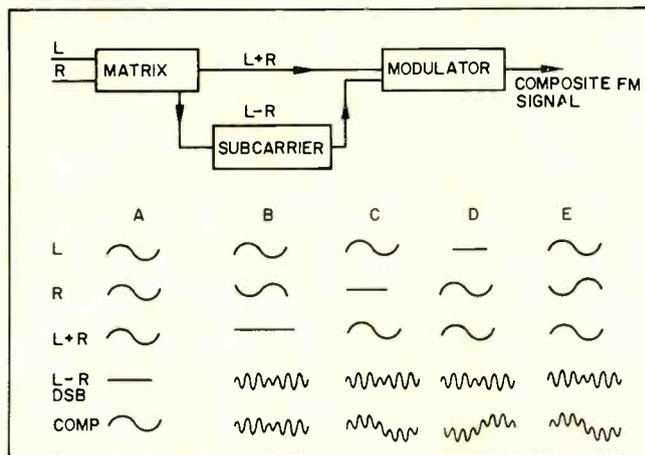
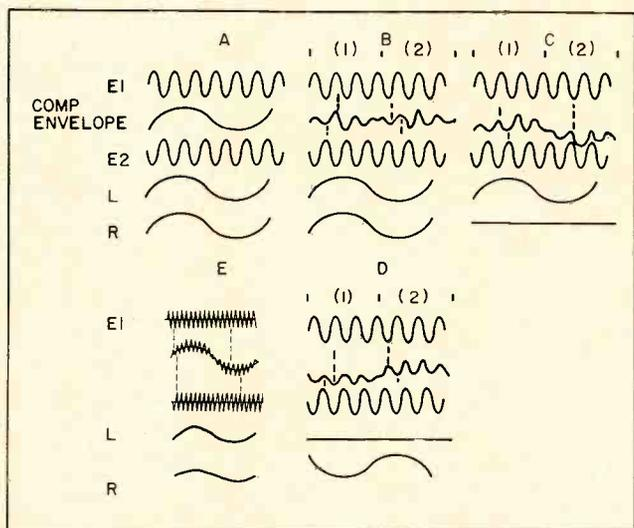

Fig. 2—Make-up of composite FM signal.
Fig. 4—Stereo sampling waveforms.
Example "A" of Fig. 2 demonstrates the make-up of the composite FM signal when the audio applied to the left and right channel inputs are of the same amplitude and phase. When the left and right signals are matrixed, there is an $L + R$ output. In the matrix, however, the L and R components cancel in the $L - R$ section and there is no $L - R$ output. Thus, for this operating extreme, only an $L + R$ signal is sent between the transmitter and each receiver. No subcarrier modulation exists because of the absence of $L - R$ signal.
Let us first consider the activity at the demodulator for example "A" (Fig. 2). In this case, only an $L + R$ signal is present at the demodulator input; there is no subcarrier sideband generated. For this condition the top and bottom diodes take alternate samples of the $L + R$ signal at the subcarrier rate. Inasmuch as the subcarrier is continuous, there are samples taken in both channels in identical fashion but the output of the two demodulator diodes will be of the same magnitude and polarity. Example "A" activity for the stereo sampling demodulator are shown in Fig. 4. This is, in fact, the only condition for which there is no subcarrier sideband variation present.
For example at "B" of Fig. 2, there is $L - R$ but no $L + R$. As you know the $L - R$ signal is transmitted using the subcarrier technique. The resultant waveform is shown at "A" Fig. 2 and in "B"
Fig. 4. The illustration at "B" in Fig. 4 is particularly significant because it shows the timing relationship between the subcarrier sampling waveform and the individual cycles that make up the L - R DSB signal. Notice that during the first segment (1) of the composite waveform, the positive alternations of the envelope cycles are time-coincident with the positive alternations of the E1 subcarrier. For the lower diode it is the negative alternations of the envelope cycles that are time-coincident with the positive alternations of the E2 sampling subcarrier. As a result the top diode follows the positive variation of the envelope; the bottom diode, the negative variation.
Example "C" of Fig. 4 demonstrates demodulator activity for a left channel only signal. In this case both L + R and L - R DSB components are present, the composite waveform being a combination of both. During the first segment of the composite FM signal (corresponds to one alternation of the modulating sine wave), there are positive peak variations but no negative peak variations. The positive peak variations are time-coincident with the positive alternations of the regenerated subcarrier. The